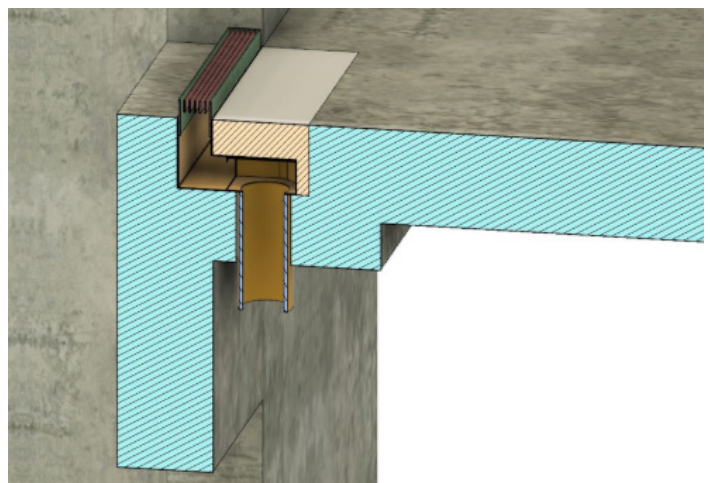

Figure 6: Install flooring
7. Install flooring as required flush to the top of the grate (Figure 6).